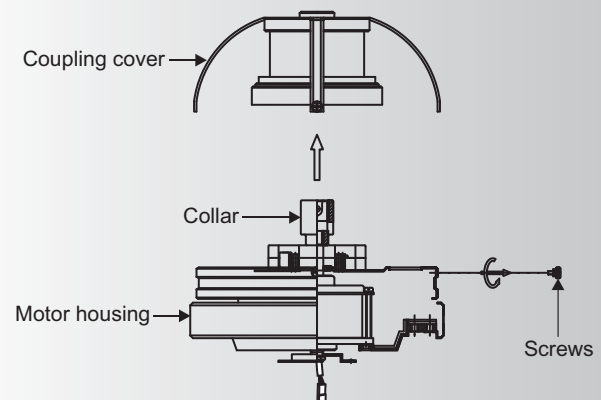

Fig. 7
Step 5. Remove the coupling cover from the motor housing by removing the screws from the rim of coupling cover. (Fig. 7)